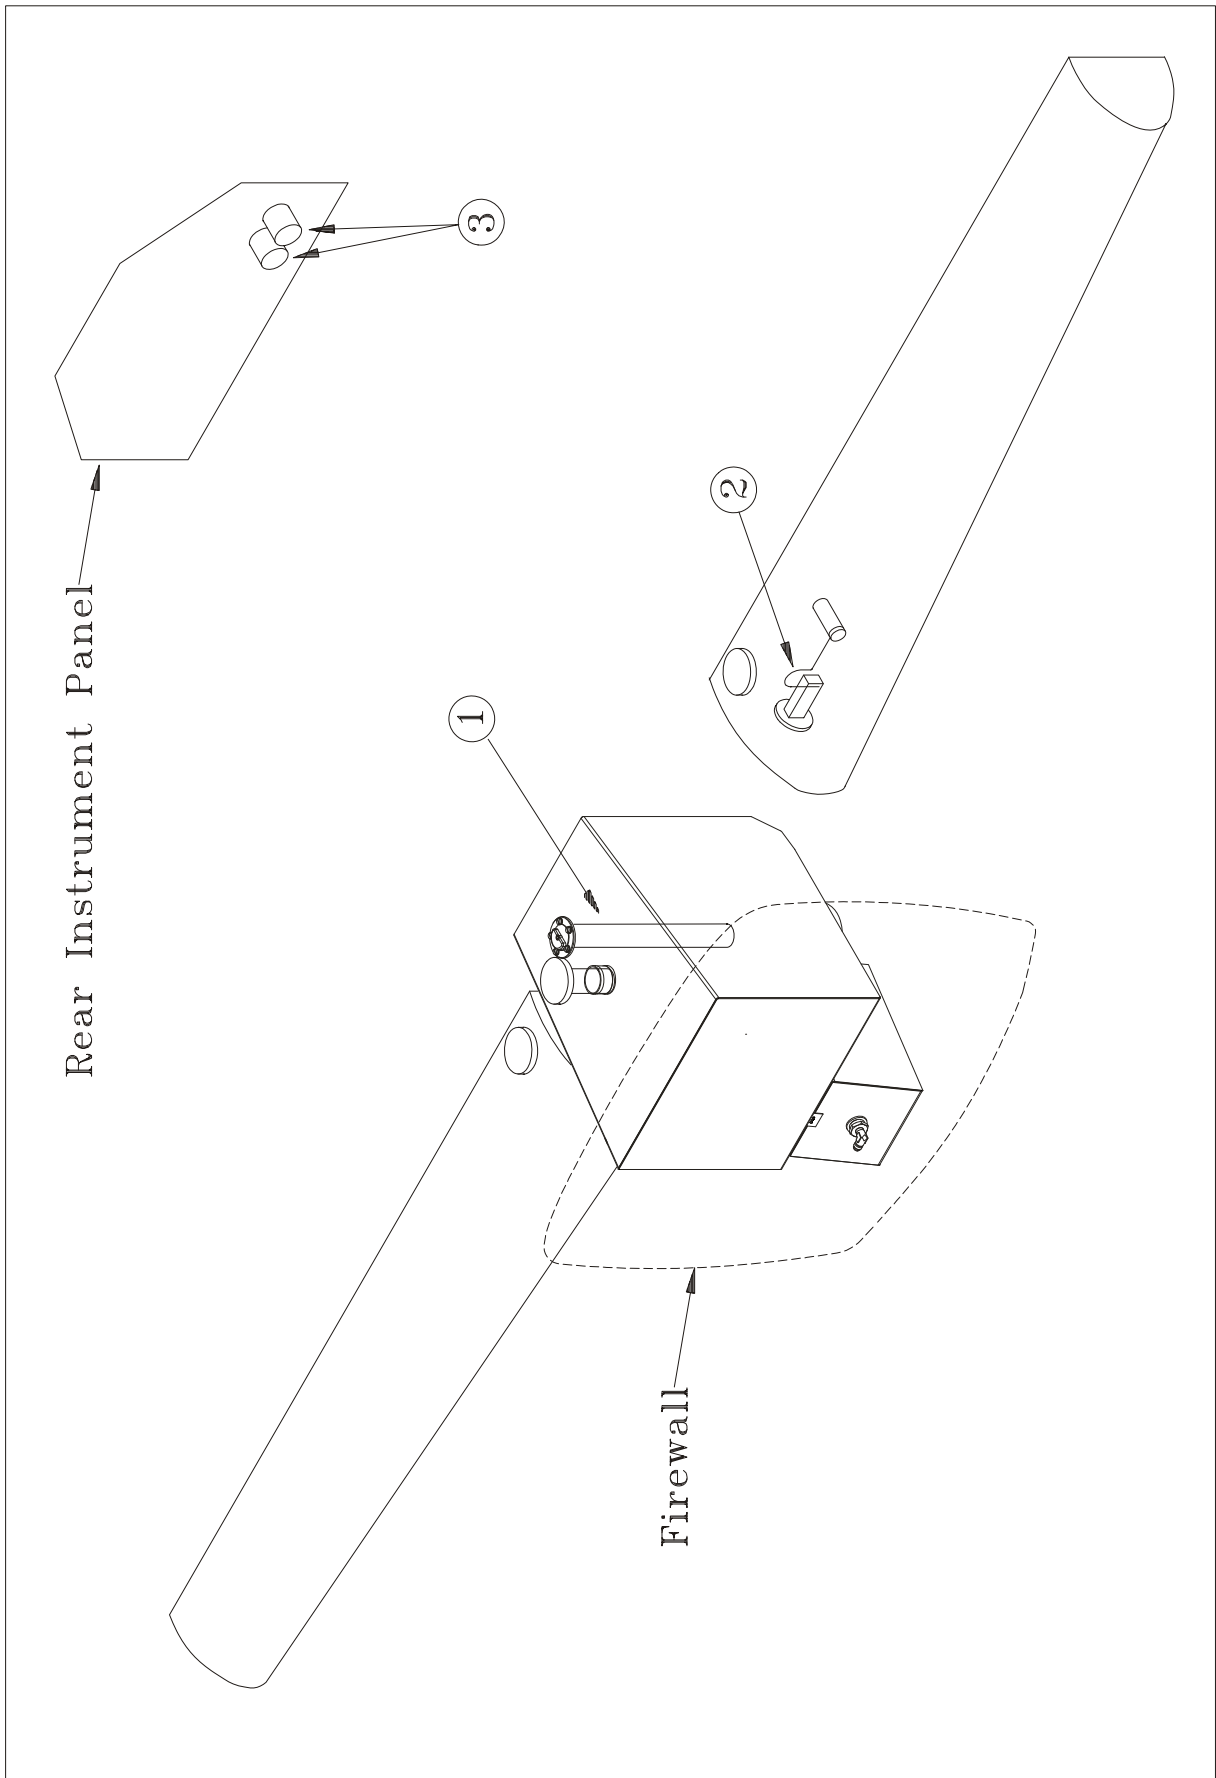

Figure 15
(Refer to Figure 15) For fuel contents indicating the center tank is equipped with a tubular fuel quantity transducer (1) and the left wing tank with a lever-type fuel quantity transducer (2).